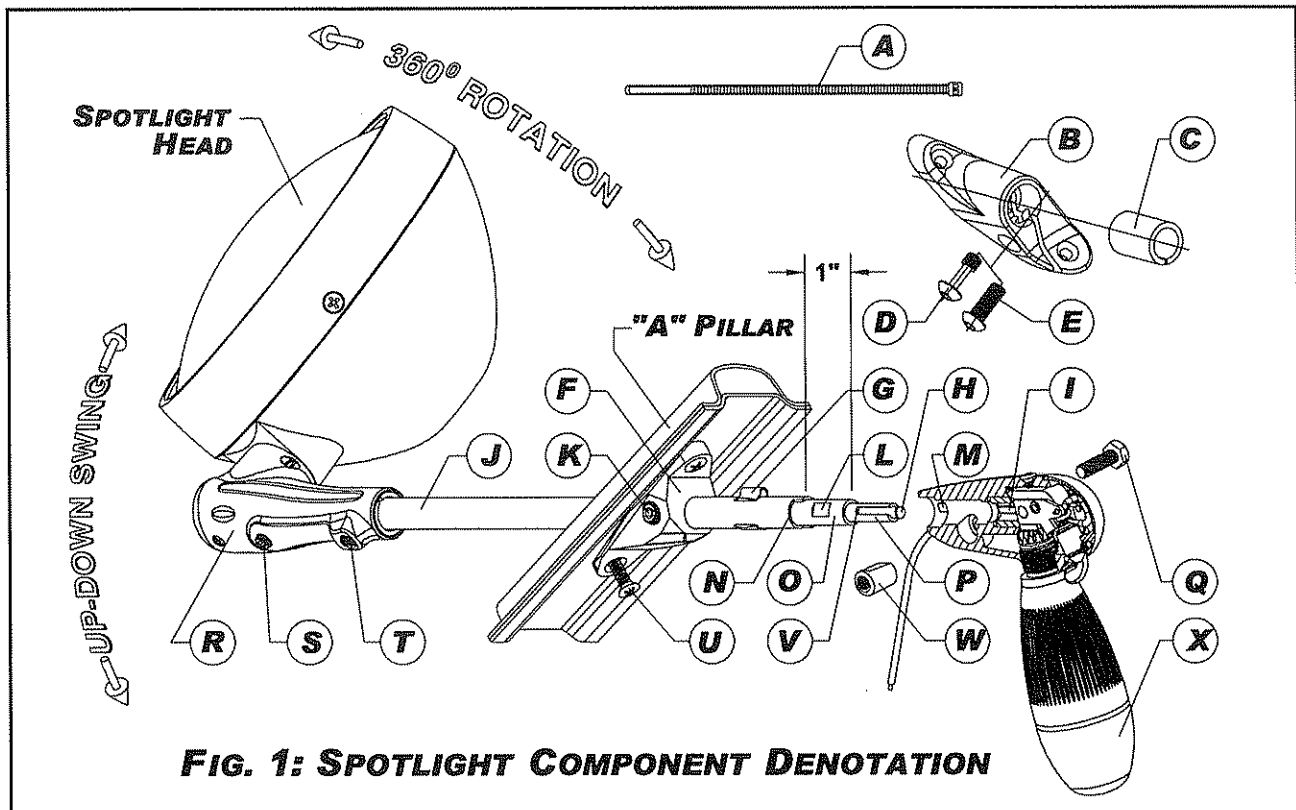

FIG. 1: SPOTLIGHT COMPONENT DENOTATION
2. DRILL SPOTLIGHT SHAFT HOLE (FIG. 1)
- g) Make sure that set screw *T* is loosened and then seat exterior tubing *J* completely into head housing *R* so that intermediate tubing *O* extends at least 1" (Fig. 1) beyond the end of exterior tube *J*. Otherwise, the flat on wedge *W* will not engage with the flat *L* on intermediate tube *O* and handle assembly cannot be installed properly at Step 6.
6. INSTALL HANDLE ASSEMBLY (FIG. 1)
- d) Hold wire on exterior spotlight tube *J* by wire clip *G* or by wire tie *A* (see Fig. 1).
- a) Make proper adjustments (Fig. 1) to set screw *T* which controls the tension for up-down swing of spotlight head, and to set screw *S* which controls the tension for 360° rotation of spotlight head, so that they create just enough tension to hold the position of spotlight head in wind. Over-tightening may cause difficulties to aim spotlight as well as premature wear-and-tear of spotlight components.
- b. Disconnect lead wire from power source first, and then remove handle assembly. **Always keep lead wire disconnected from power during the removal and installation process of handle assembly.** Test light by applying 12 VDC power to rod contact *H* (Fig. 1).
- ii). Replace bulb and test light by applying 12 VDC power to rod contact *H* (Fig.1). If light still does not work, replace the spotlight shaft assembly with new one. If light works, reinstall the handle assembly and test light. If light still does not work, replace the handle assembly with new one.
- i). Adjust set screw *S* (Fig. 1) and make sure it is not over-tightened. After proper adjustment, if it is still hard to turn, go to the next step.
- i). Make proper adjustment to set screw *T* (Fig. 1). If rotation is still not smooth, go to the next step.